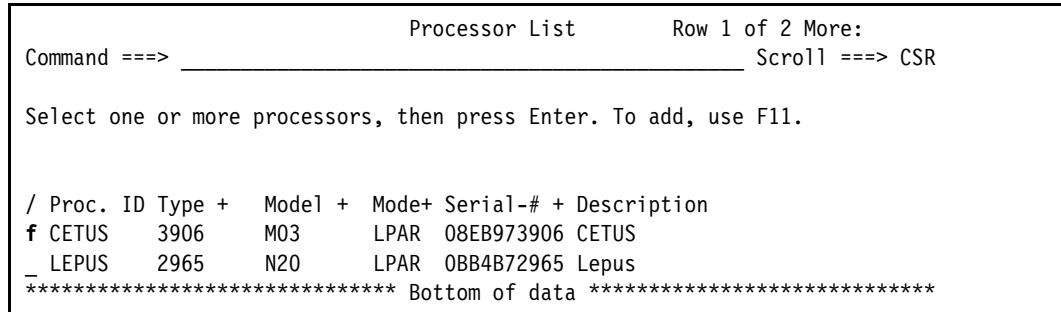

Figure 15-1 Processor List: Adding PCIe functions to a processor, ISM
2. Enter **f** (work with PCIe functions) next to the processor (CETUS) to which you want to define the ISM functions and press **Enter**. See Figure 15-1.